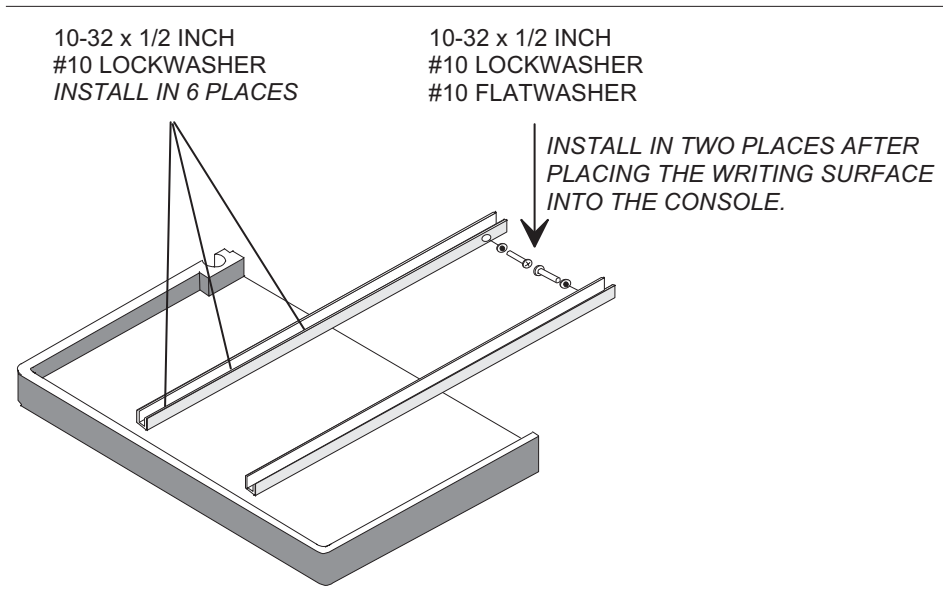

Figure 14-1. Console Table
- Step 4.** Attach the mounting rails to the table as shown in Figure 14-1.